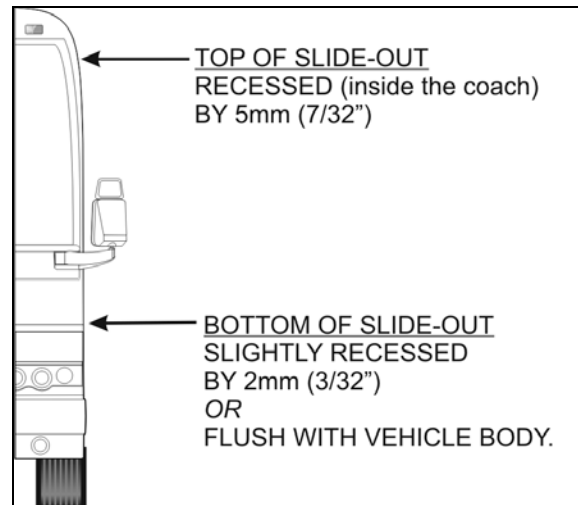

FIGURE 28: TILT ADJUSTMENT
- Using leveling screw 3, adjust the tilt in order to have the top of the slide-out recessed by 5mm (7/32") (see Figure 28).